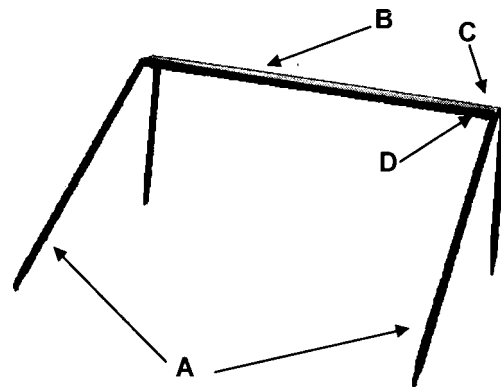

Figure 3.5 - Internal Frame Assembly
These components are fastened together using 1/6" x 1" round head screws (C) and 1/16" unc. nyloc nuts (D) (Refer Figure 3.5).